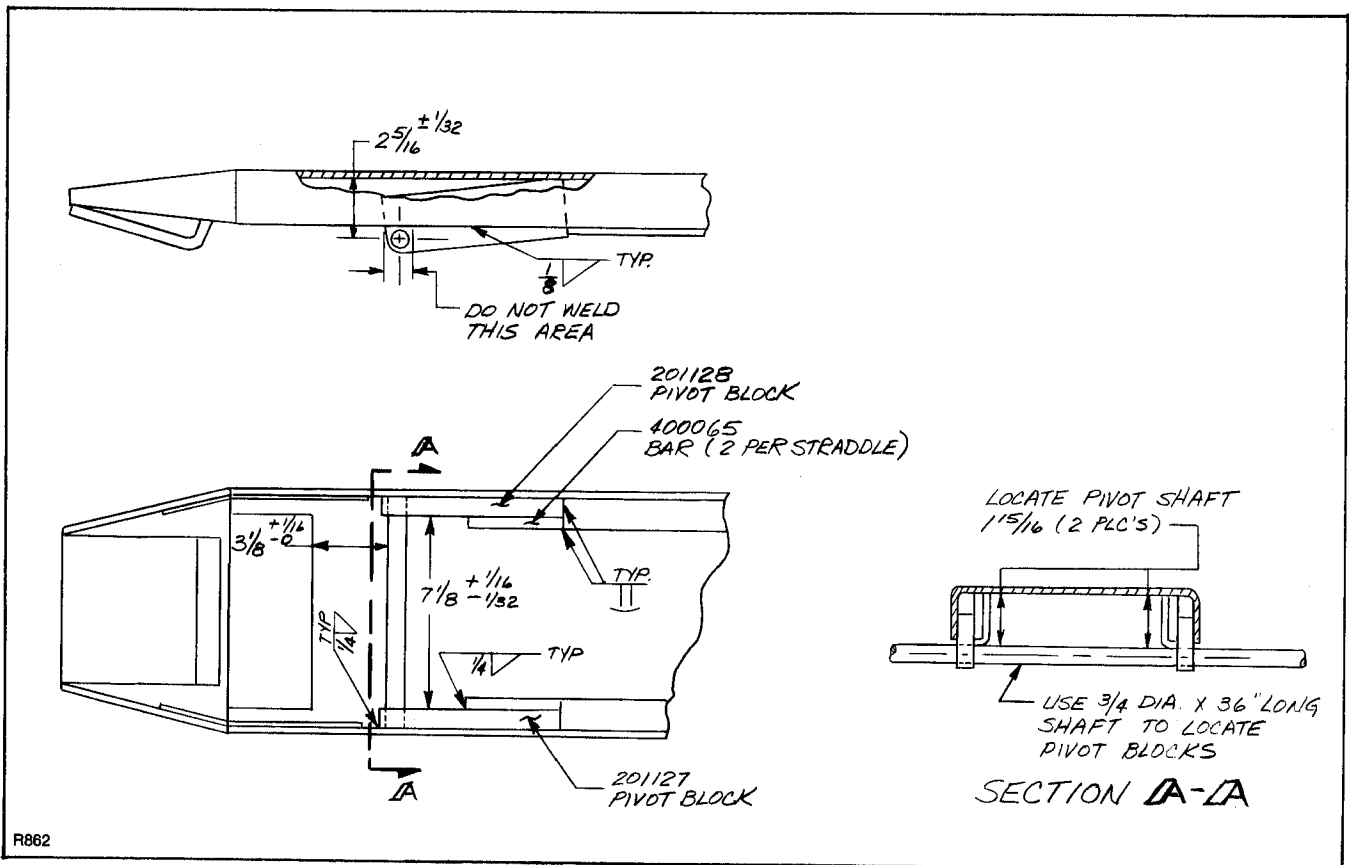

Figure 3-14. Straddle and Pivot Blocks
1. Refer to figure 3-14, and cut pivot blocks from both straddles with a torch then clean off slag to assure proper fit of new parts.
2. Position the pivot blocks in the straddle using the 36-inch long shaft (see section A-A, figure 3-14) and adjust the position of the blocks for the 3-1/8 + 1/16-0 dimension shown in the bottom view and the 1-15/16 dimension shown in section A-A.